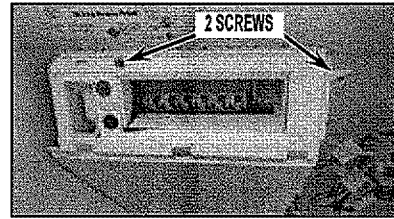

FIGURE 11
14. Locate the two 1/4" screws attaching the ice box assembly and remove using 1/4" nut driver. Slide ice box assembly forward to remove. See Figure 11.